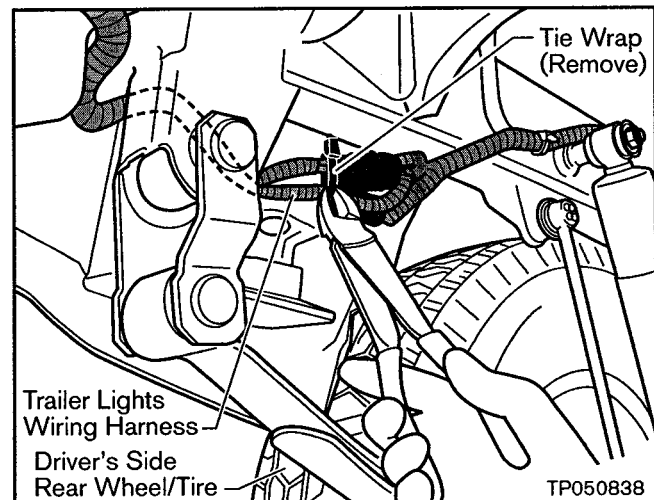

Figure 2
3. Cut and discard the Tie Wrap that holds the Trailer Lights Wiring Harness Connectors (see Figure 2).